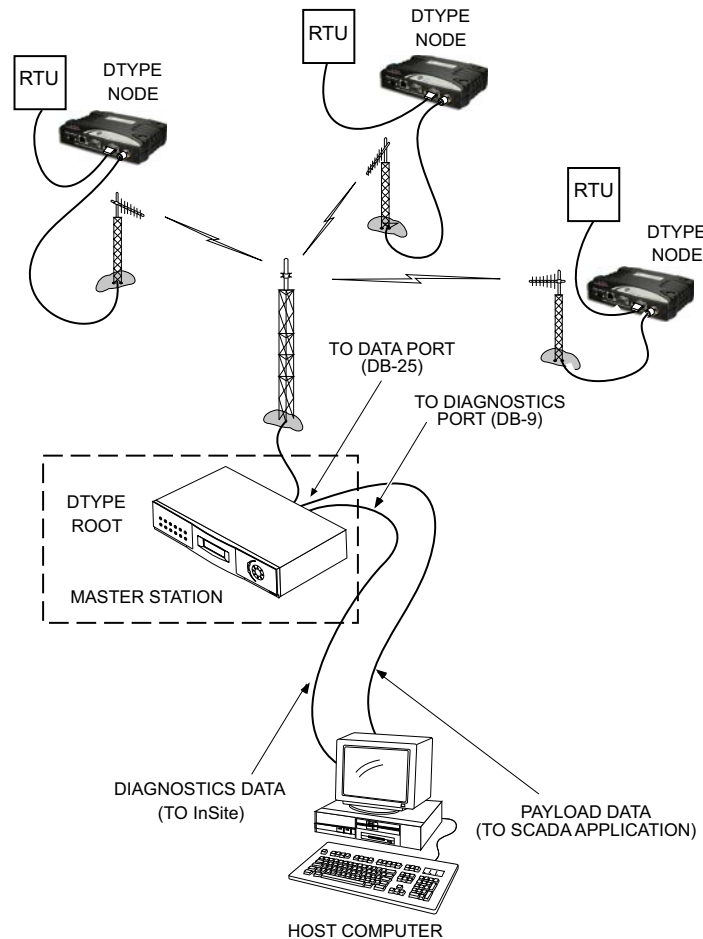

Figure 64. Network-Wide Remote Diagnostics Setup
Diagnostics data from a remote radio can be obtained by connecting a laptop or personal computer running GE MDS diagnostic software, such as MDS PulseNET or MDS InSite to any radio in the network. Figure 64 shows a sample arrangement for performing network-wide remote diagnostics.
6. Connect a PC running the management software (i.e., MDS InSite or NETview MS) to the root radio, or to one of the nodes, using the radio's COM1 port. (This PC may also be the PC being used to collect payload data, as shown in Figure 64.)